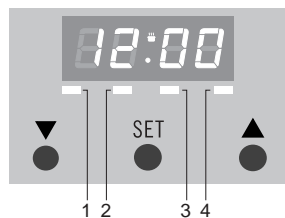

fig. 3
After the appliance has been connected, or when the power supply has been interrupted, the display will show '12.00'. LED 4 is blinking (see fig. 3). The time of day can be set.
- Press 'SET' until LED 1 blinks (see fig. 3).
- Press key ▼ or ▲ until the correct minute minder time has been reached. The set time will stay on the display. LED 1 lights up steadily (see fig. 3).
- Press 'SET' until LED 2 blinks (see fig. 3).
- Press 'SET' until LED 3 blinks (see fig. 3).
LEDs 2 and 3 light up steadily (see fig. 3). The time of day will be displayed. The oven gives a signal when the set time has been reached and automatically switches off.